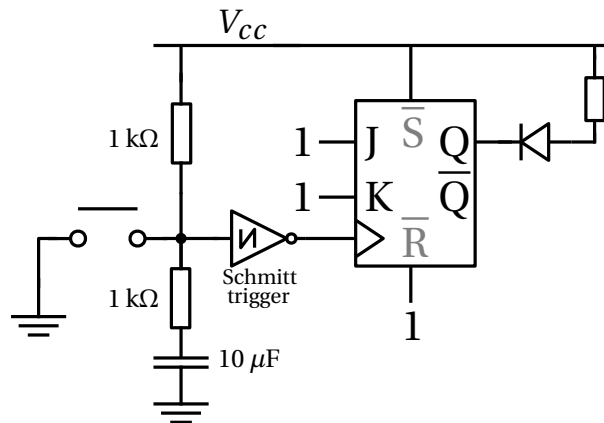

Figure 4:
Connect an inverting Schmitt-trigger to the output of your RC debouncing circuit. Sketch your new schematic and show an example of the input and output waveforms of the Schmitt-trigger upon a button press (using two oscilloscope probes). Comment on your observations. See Fig. 4.
- (g) Repeat part (b) with your Schmitt-trigger debounced button clocking the toggle-mode JK flip-flop. We call this configuration a (debounced) **toggle-button**. See Fig. 4.